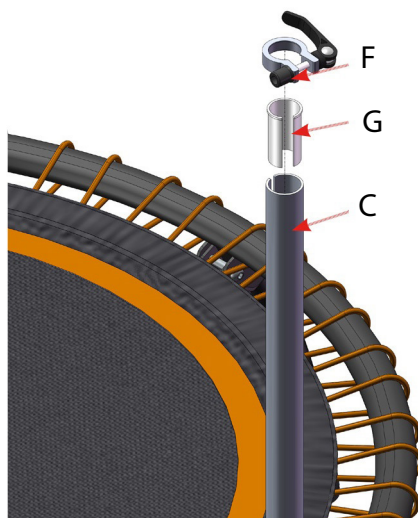

Fig. 9
Insert the plastic spacer (G) in the support tube (C) and mount the quick release clamp (F) on the support tube (C) (see fig. 9).